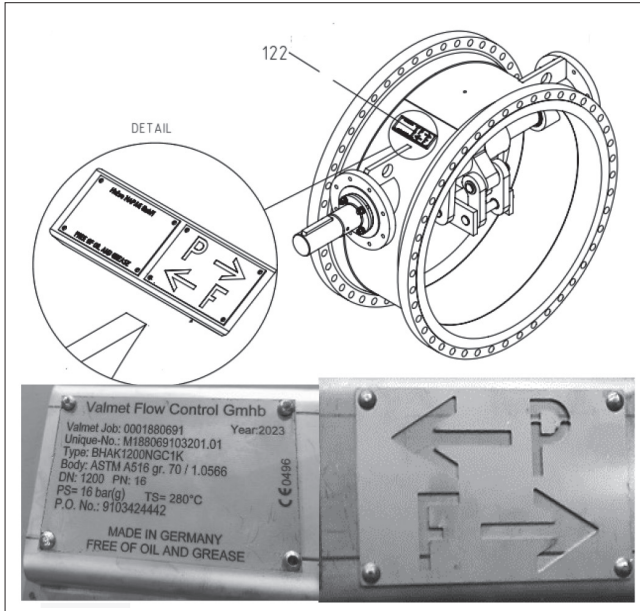

Fig. 3 Identification plate and pressure/flow direction
The valve data are shown on the identification plate attached to the valve body neck. (See Figure 3)
The CE sign is displayed on the identification plate (see Figure 3: identification plate).
- Turn the valve in such a manner that the arrow (P for pressure) on the body points to the pressure direction of the process. (See Figure 3)